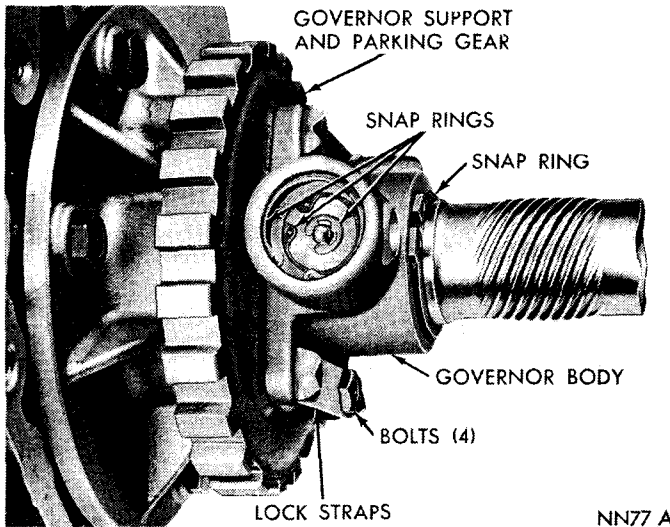
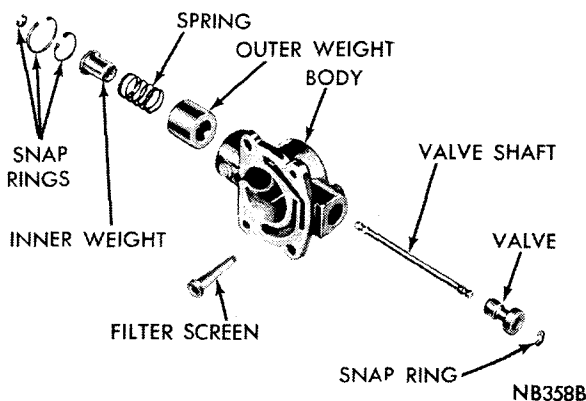

Fig. 32—Governor Shaft and Weight Snap Rings
Fig. 33—Governor Assembly
(1) Remove extension housing and output shaft bearing.
(2) Carefully pry snap ring from weight end of governor valve shaft (Fig. 32). Slide valve and shaft assembly out of governor body.
(3) Remove large snap ring from weight end of governor body, lift out governor weight assembly.
(4) Remove snap ring from inside governor weight, remove inner weight and spring from the outer weight. Figure 33 shows a disassembled view of the governor assembly.
(5) Remove snap ring from behind governor body, then slide governor and support assembly off the output shaft. If necessary remove the four bolts and separate governor body and screen from the support.
Figure 33 shows a disassembled view of the governor assembly.